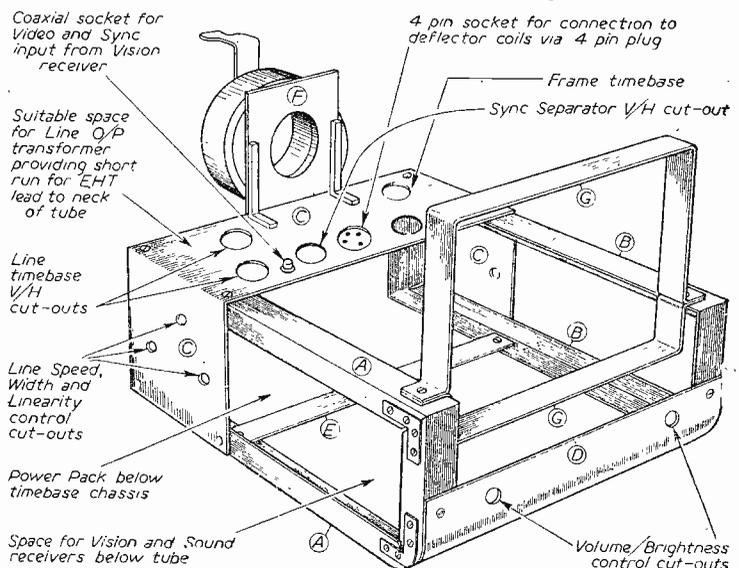
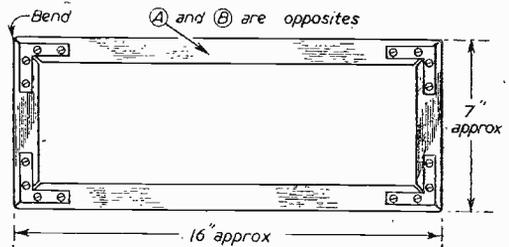

Fig. 1.—General view of the complete chassis framework.
Fig. 3.—Details of one complete runner.
A close study of Fig. 1 will give the reader almost all the information he may need. The different sections are clearly marked (A) to (F) and these letter references will be used throughout the text. (A) and (B) are made into two rectangular frames (or side-runners) from angle-section aluminium material (see Fig. 2). Upon these two side-runners all other sections are mounted and the appearance is similar to a bob-sleigh. Fig. 3 shows a side-on view of sections (A) and (B) which are cut and bent at the same time in order to keep the two sides truly parallel to each other. As actual measurements are a matter
The section (C) is a single sheet of stout aluminium (say 18-gauge) which is bent at right-angles across the width of the frame to form a "saddle" at the rear. It will be noted that this section can be fixed to the side-runners at any required distance back and forth, thus accommodating tubes of widely varying length. In Fig. 1 cut-outs are shown for valvholders, etc., the line timebase being built up on the left-hand side and the frame timebase on the right. This is simply a guide and is the method used by the author to keep both line and frame time-